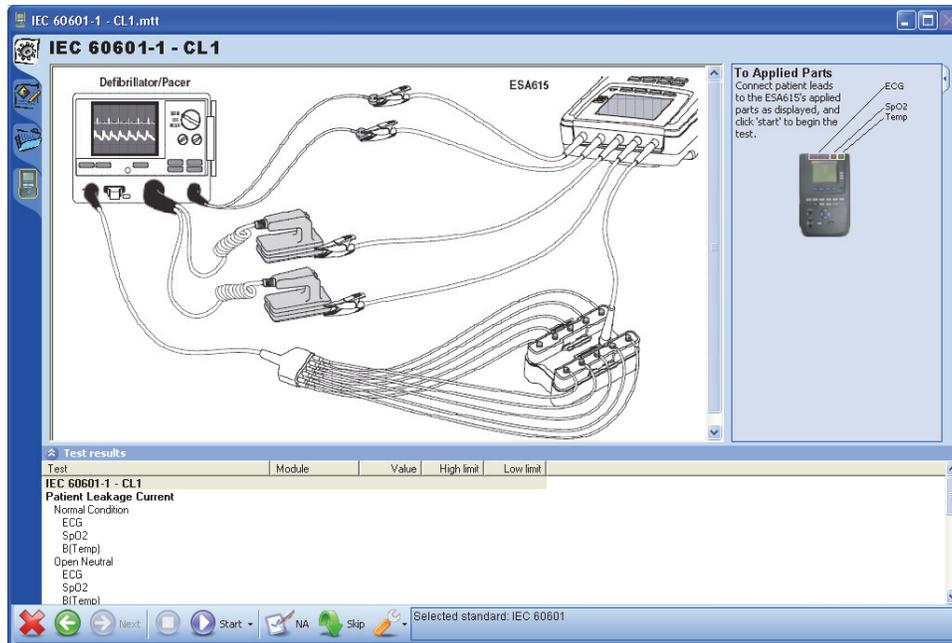

Figure 6-10. DUT Connections Screen
1. Click the **Procedure** tab on the left side of the test guide to show the connection procedure. An applied parts connection guide is shown in Figure 6-10.